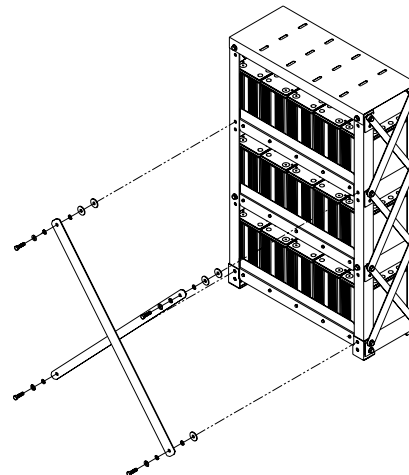

Figure 8.7a
- Install cross braces and shims per Figure 8.7a & 8.7b.